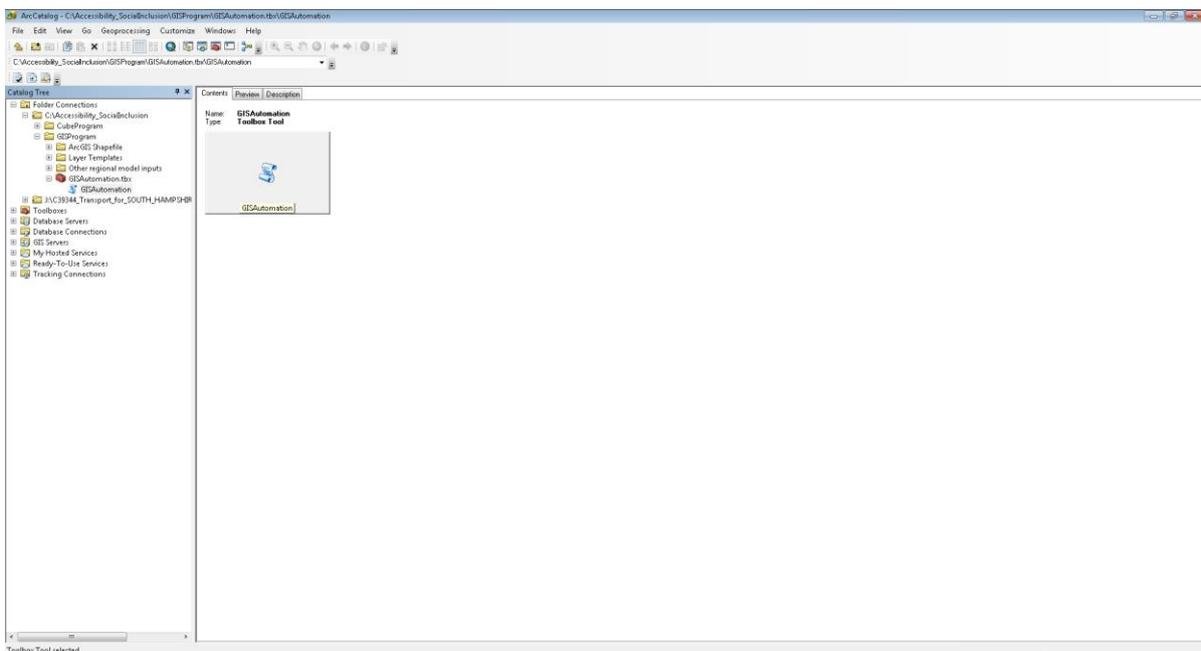

Figure 3.3 Navigating to the GIS Automation Toolbox Tool
- 3) Open the GIS Automation Toolbox Tool, which is saved in \GISProgram\GISAutomation.tbx, as shown below in Figure 3.3.